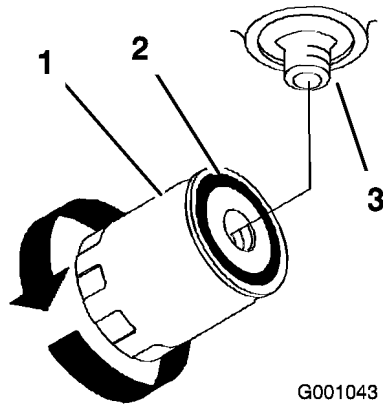

Figure 56
4. Apply a thin coat to the rubber gasket on the replacement filter (Figure 56).
6. Fill the hydraulic tank with hydraulic fluid until the fluid overflows the filter and then turn the oil filter clockwise until the rubber gasket contacts the filter adapter, then tighten the filter an additional 1/2 turn (Figure 56).